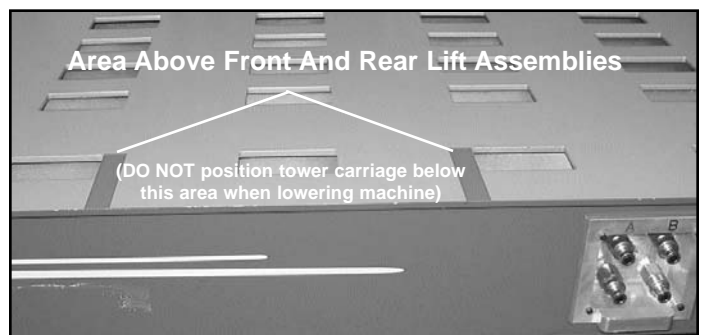

Figure 59
1. DO NOT position tower carriages below areas identified with "red" lines (see Figure 59) or they will be damaged when lowering machine to its lowest working height. The "red" lines represent the locations of the lift assemblies below the mainframe.